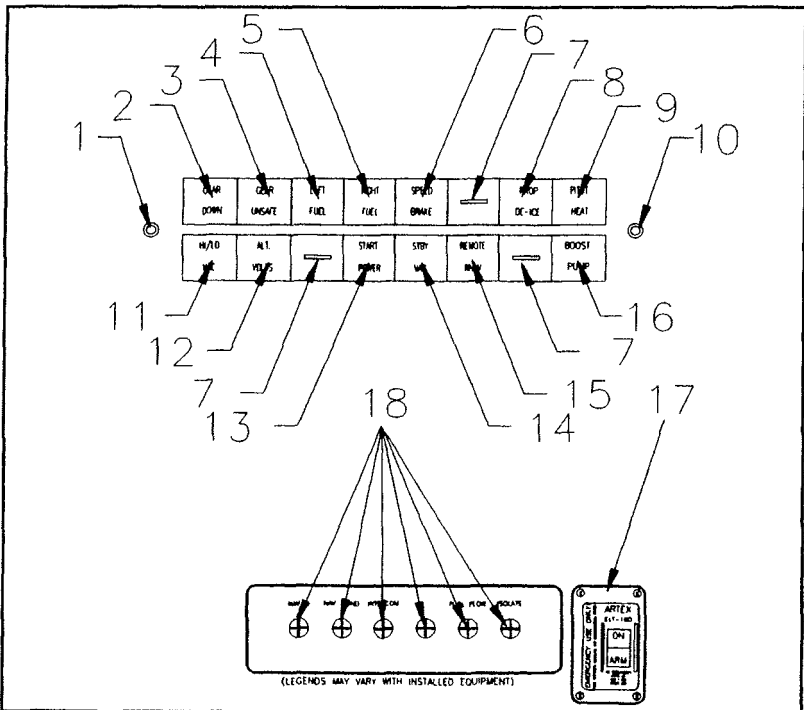

FIGURE 7-3 - ANNUNCIATOR AND SWITCH PANELS
**ANNUNCIATOR AND SWITCH PANELS (See Figure 7-3)**